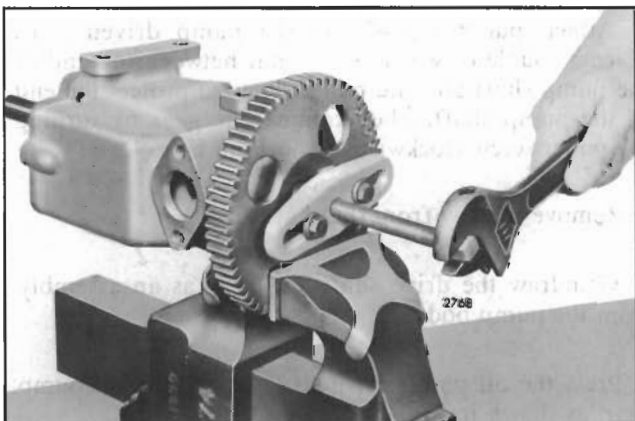

Fig. 4 - Removing Oil Pump Drive-Driven Gear
5. Attach puller J 24420 to the pump driven gear. Place a couple of washers or a nut between the end of the pump shaft and the puller screw to protect the end of the pump shaft. Then remove the gear by turning the puller screw clockwise as shown in Fig. 4.